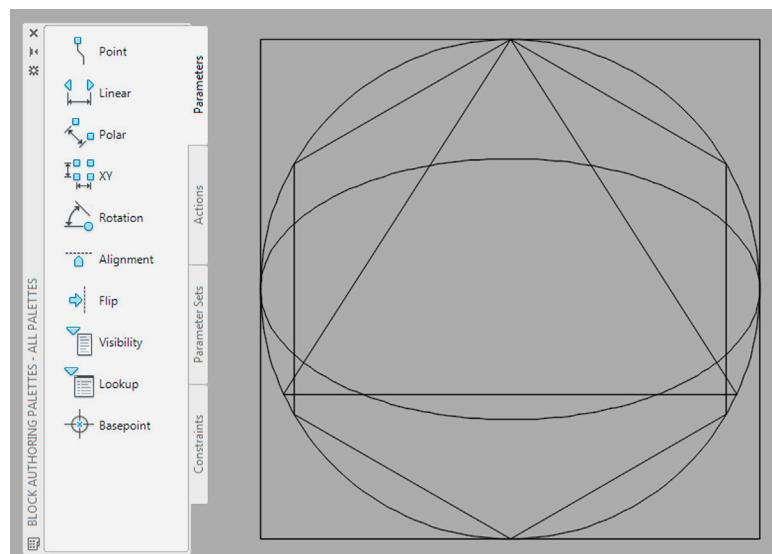

FIGURE 7.20 Combined shapes in `bedit`.
Step 2. Put all the shapes on top of each other, centering them at the top. Make a block out of all of them calling it `Main_Block`. Then go into the dynamic block editing mode via `bedit` or just double clicking on `Main_Block`. You should see what is shown in Fig. 7.20.